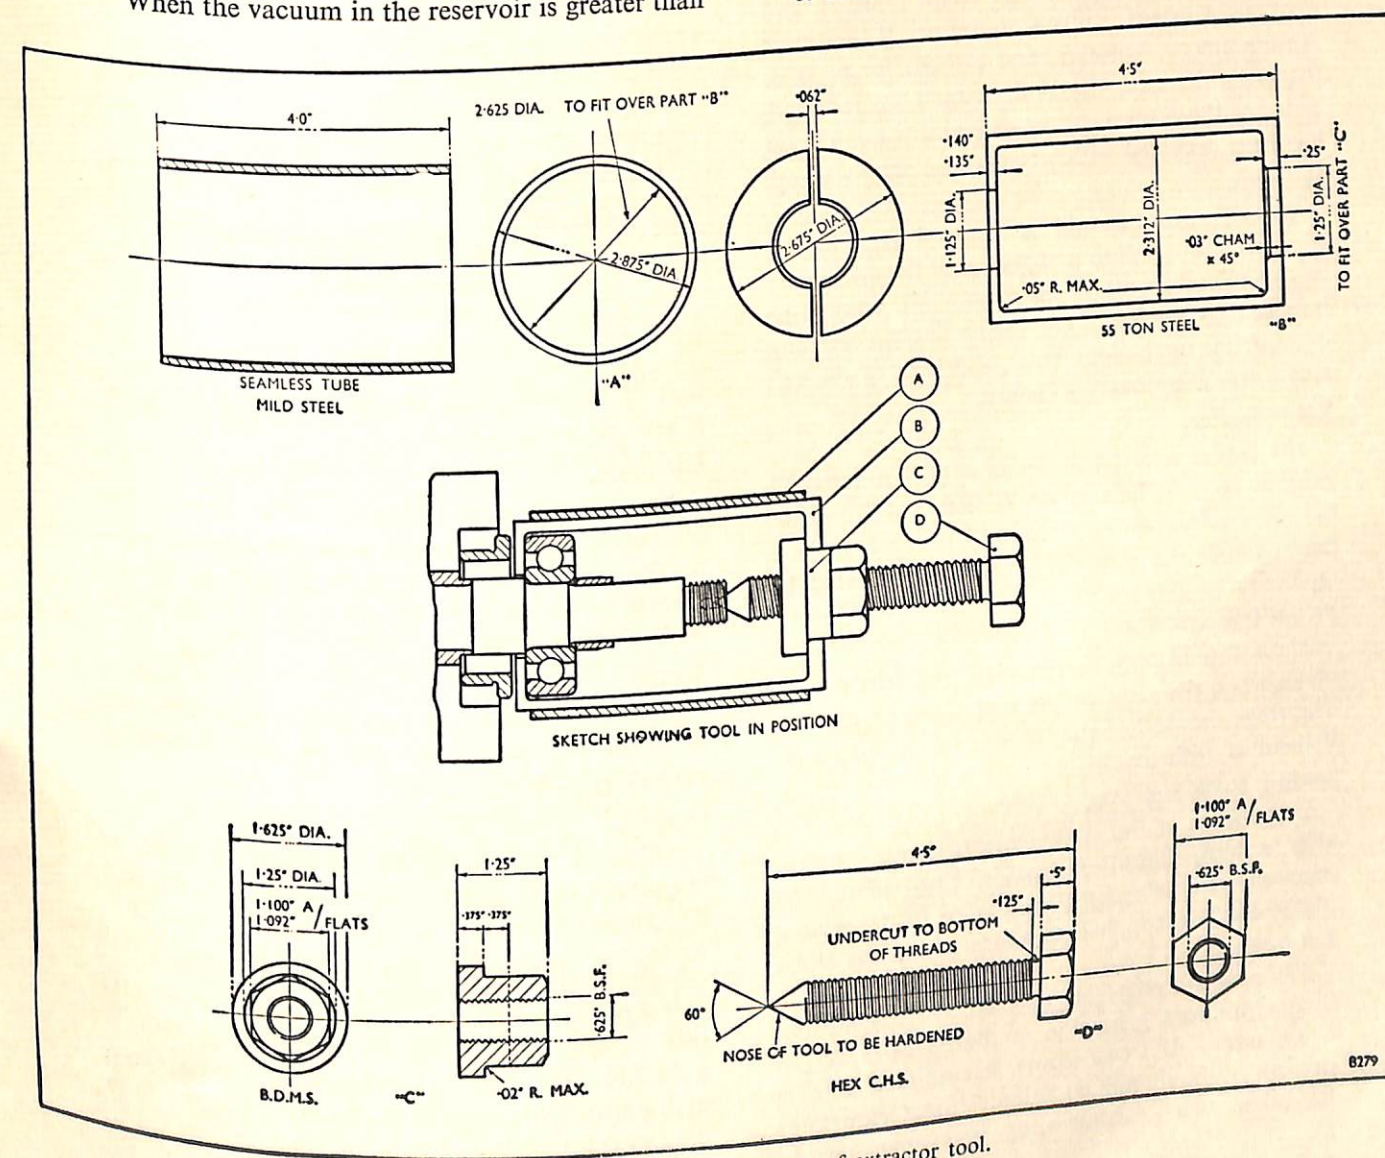

FIG. 77. Details and assembly of extractor tool.
7. To remove bearings, cam rings and shaft collars, an extractor tool is necessary, and is illustrated in Fig. 77. The claws of the extractor should be inserted between the bearings and cam ring. On screwing the bolt up against the rotor shaft end, the ball race and shaft collar will then be extracted together. The cam rings can then be removed from the rotor.